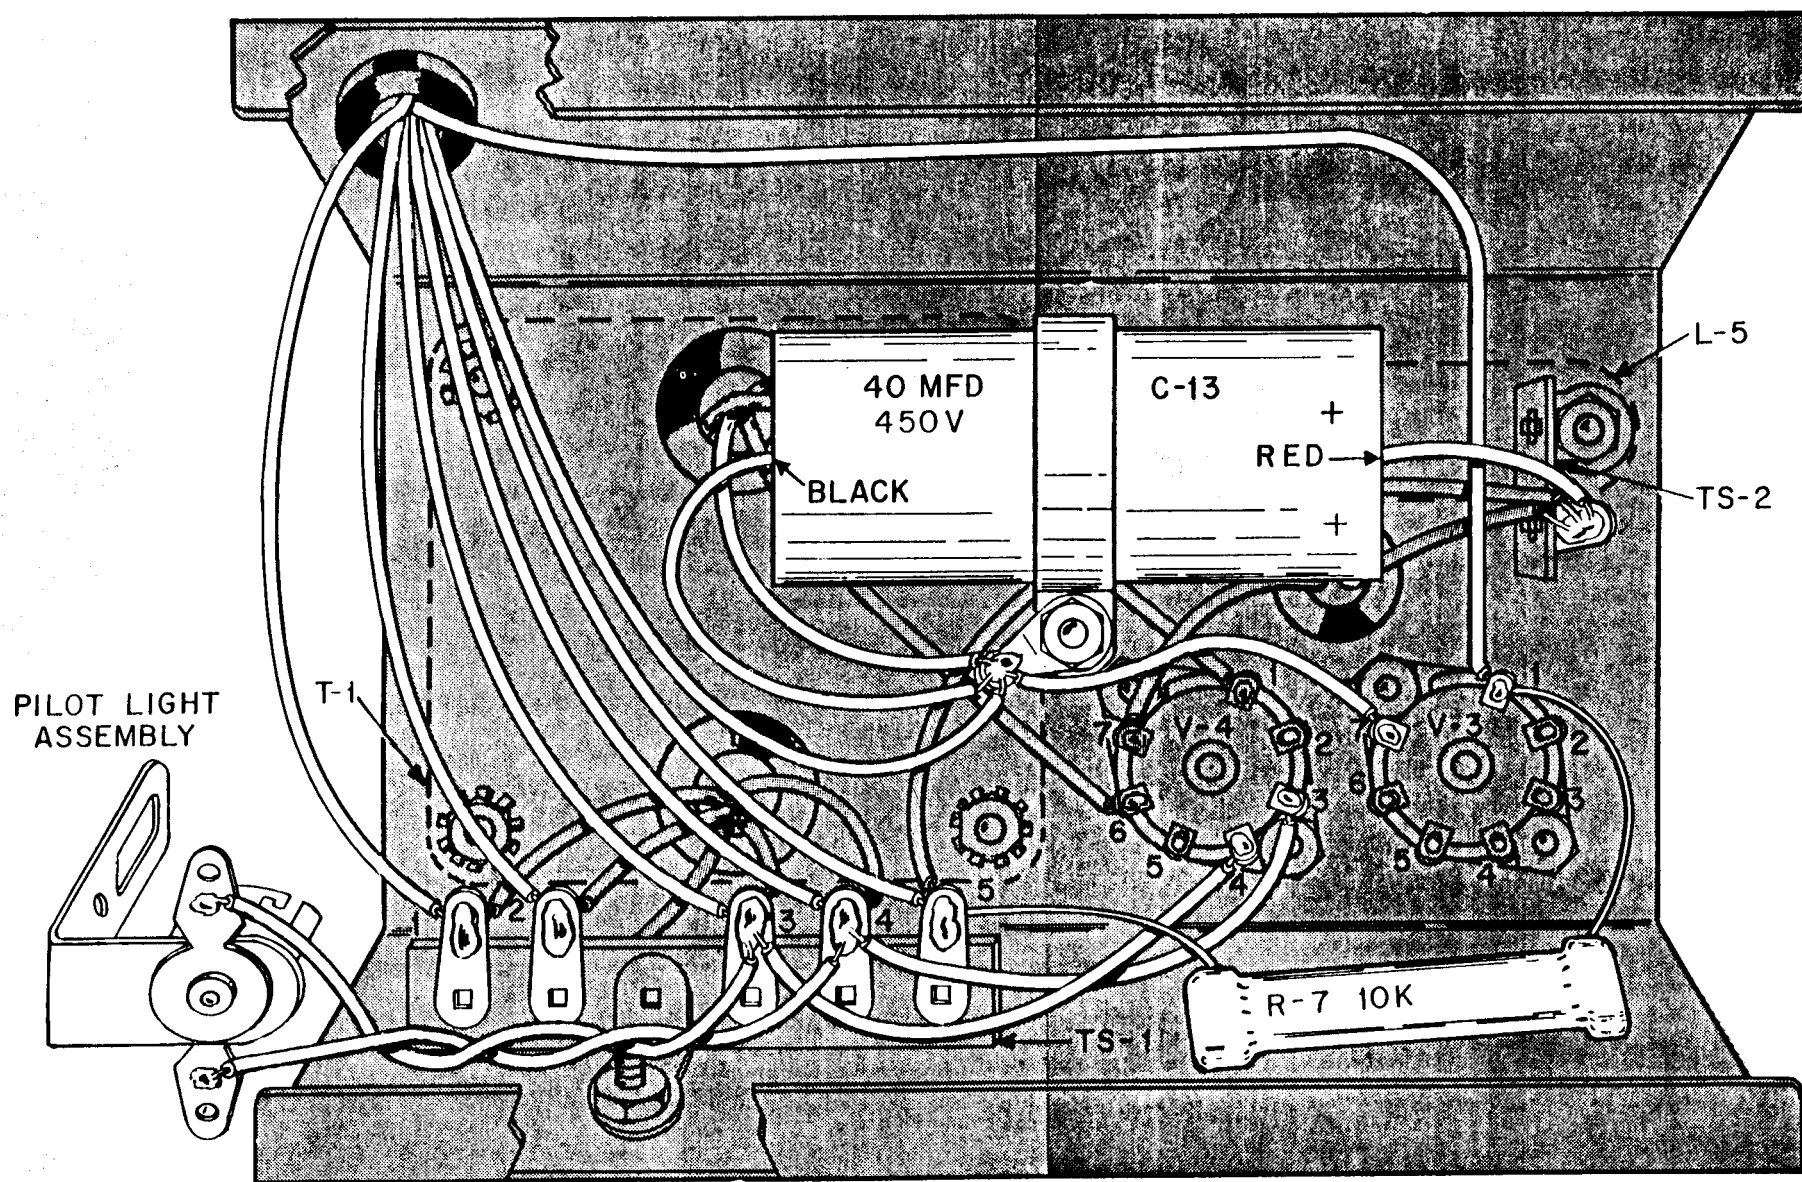

FIGURE 5. SECOND WIRING VIEW, POWER SUPPLY CHASSIS
### SEE FIGURE 5.
- ( ) Mount C-13, the 40 MF'D, 450 V electrolytic capacitor, and a ground lug as shown in Figure 5. The red lead must be toward TS-2. Use the same larger machine screw and nut to fasten both.
- ( ) Check all of the work against Figure 5. You have finished wiring the power supply chassis of your KNIGHT VFO. All connections must be strong mechanically and all should now be well soldered.